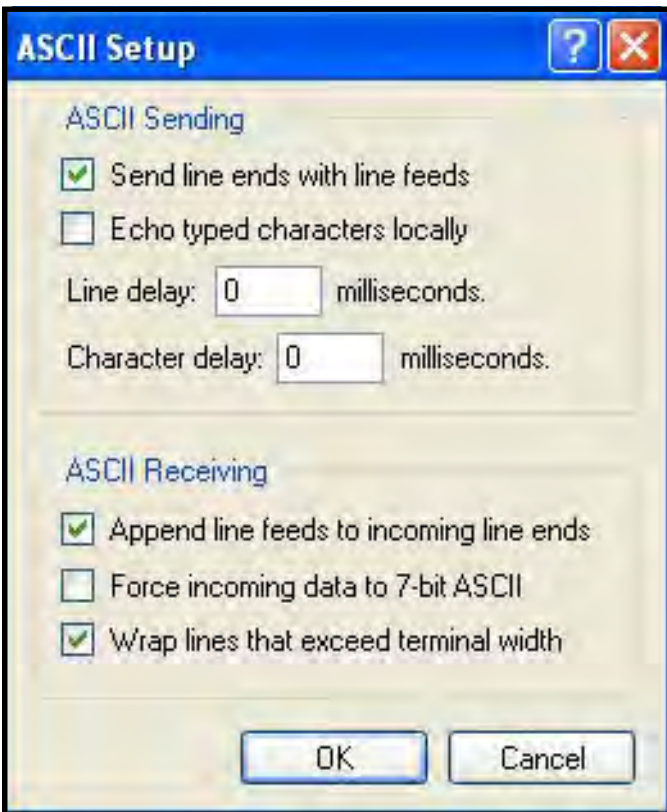

Figure 103. ASCII Setup in Windows Hyperterminal
- X. In the Windows HyperTerminal Communication Program, select "File > Properties > Settings > ASCII Setup". Ensure that the following options are selected (see Figure 103). Click the "OK" button and return to the main HyperTerminal window.